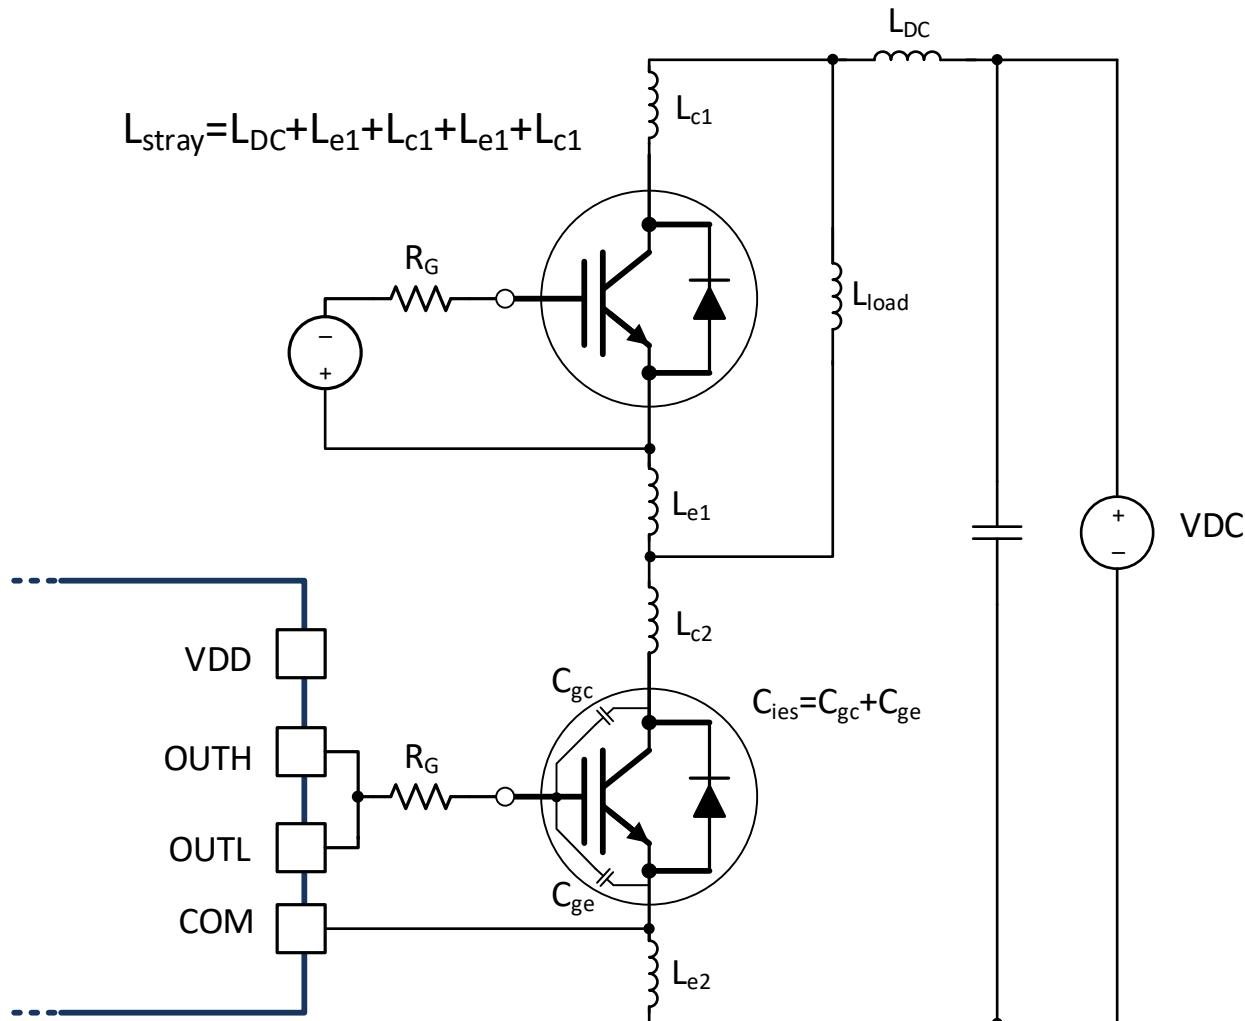

Figure 9-6. Stray Parasitic Inductance of IGBTs in a Half-Bridge Configuration
- $L_{\text{stray}}$  is the stray inductance in the power switching loop, as shown in Figure 9-6.